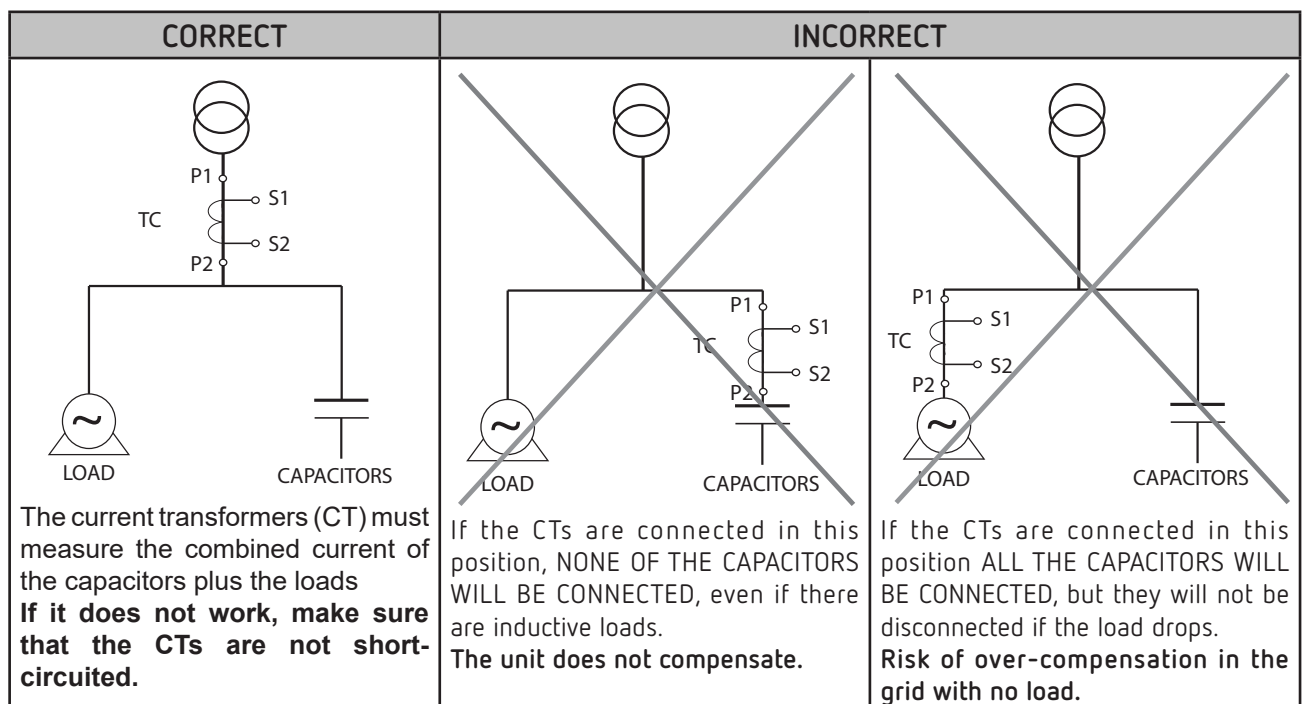

Figure 1: Location of the current transformers
The current transformers (CT) must be installed at a point in the distribution panel which carries all the current of the loads to be compensated as well as the current of the capacitors themselves (**Figure 1**).